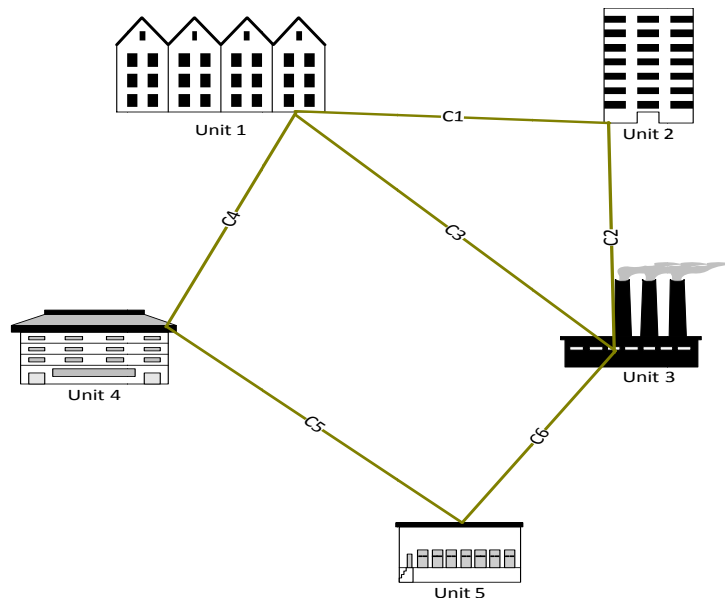

Fig. 1 A Communication Cable Configuration
1. **[Programming Exercise - 5 Marks]** An industrial communication company is planning to lay cables to a new factory allowing all the factory's units to be linked for the interchange of data. If it is constrained to bury the cable only along certain paths, then there would be an undirected graph representing which points are connected by those paths. Some of those paths might be more expensive, because they are longer, or require the cable to be buried deeper; these paths would be represented by edges with larger weights. For example, Figure 1 shows 5 factory's units and the possible paths along which the cables can be buried.